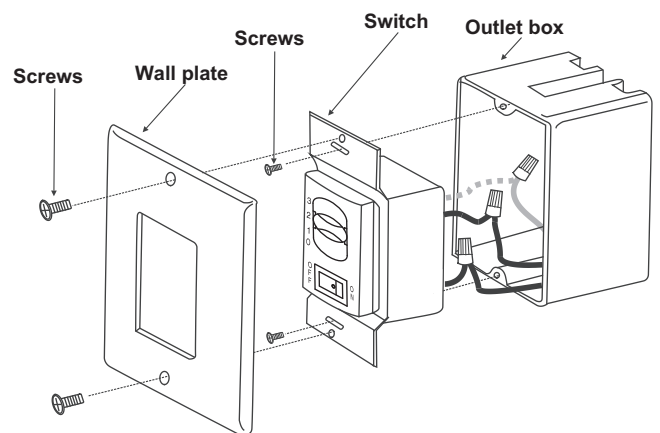

Figure 7
4. Connect, if present, the wall speed control's ground wire directly to one of the screws from the outlet box. (Fig. 7)
5. Attach the wall control to the outlet (wall) box and secure with 2 outlet box screws. (Fig. 7)
6. Attach the wall plate to the wall speed control and secure with 2 mounting screws. (Fig. 7)